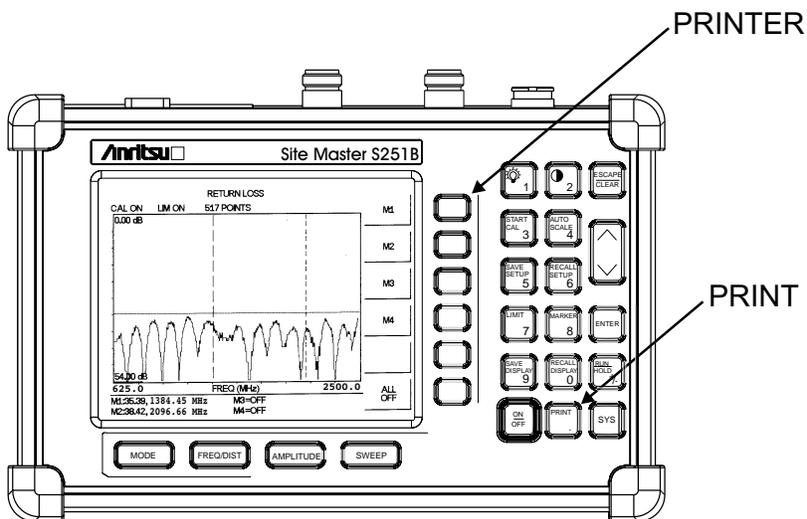

Figure 3-15. *PRINTER Soft Key and PRINT Key*
**Step 5.** Press the **PRINT** key. (Figure 3-15).